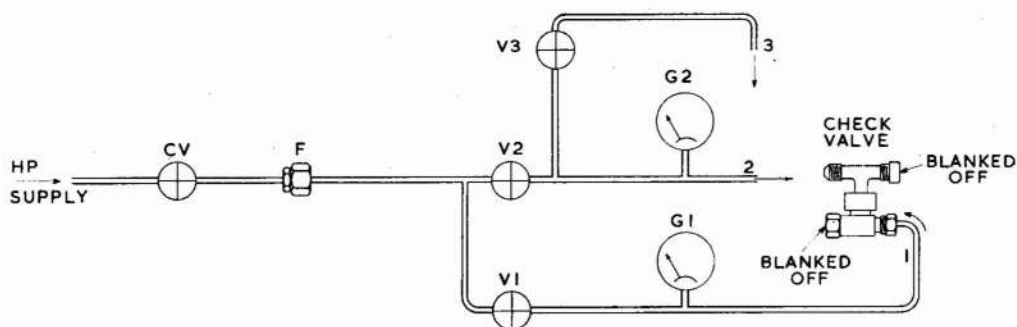

Fig. 2. Test rig, internal leakage test, check valves, 6D/2162, 6D/2167 and 6D/2264
- (2) Remove blank from inlet connection and from one only outlet connection.
- (3) Connect to pressure and leak test rig as shown in fig. 2.
- (4) Connect 25-500 cc/min. flowmeter to inlet connection.
- (5) Ensure V1 is open, V2 and V3 are closed.
- (6) Adjust CV until G1 indicates 10 lb/in².
- (7) Flowmeter is to indicate not more than 250 cc/min.
- (8) Exhaust the system and remove the flowmeter.